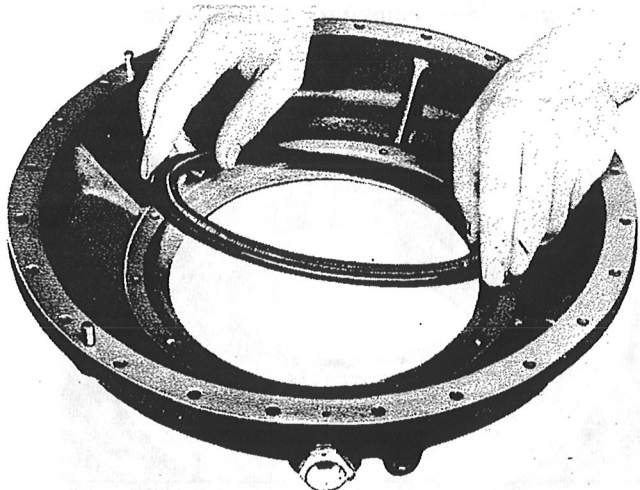
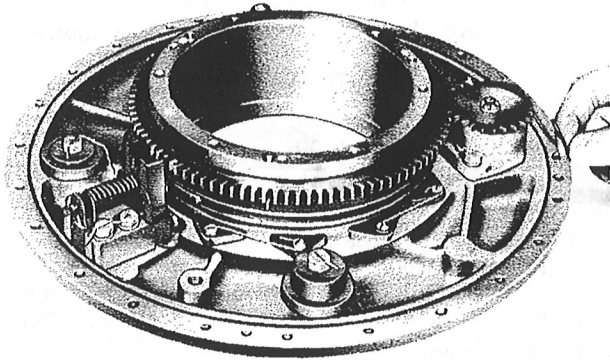

Figure 63—Removing Cover Seal
Figure 64—Removing Cord Seal
(14) Remove the regulator cover seal and spring. Use the hands only. Do not distort the seal. (See figure 63.)
(15) Remove the spring from the cover seal.
(16) Remove the cord seal from the groove in the regulator housing. (See figure 64.)